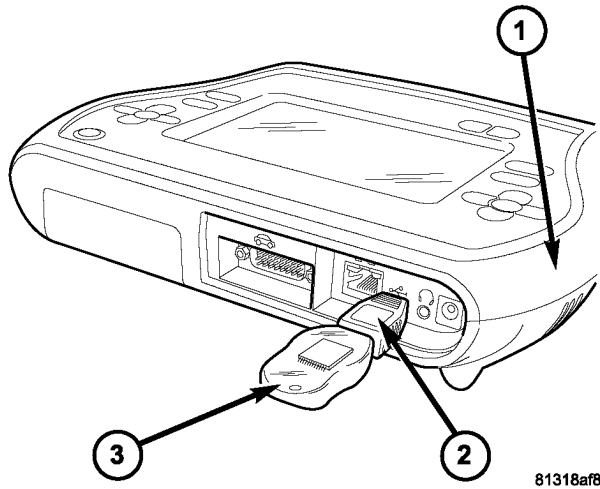

Fig. 7 USB KEY, GENDER CHANGER, AND StarSCAN® TOOL
8. Connect the USB Key and Gender Changer to the StarSCAN® USB port (Fig. 7).
13. Remove USB key and gender changer from the StarSCAN® (Fig. 7).